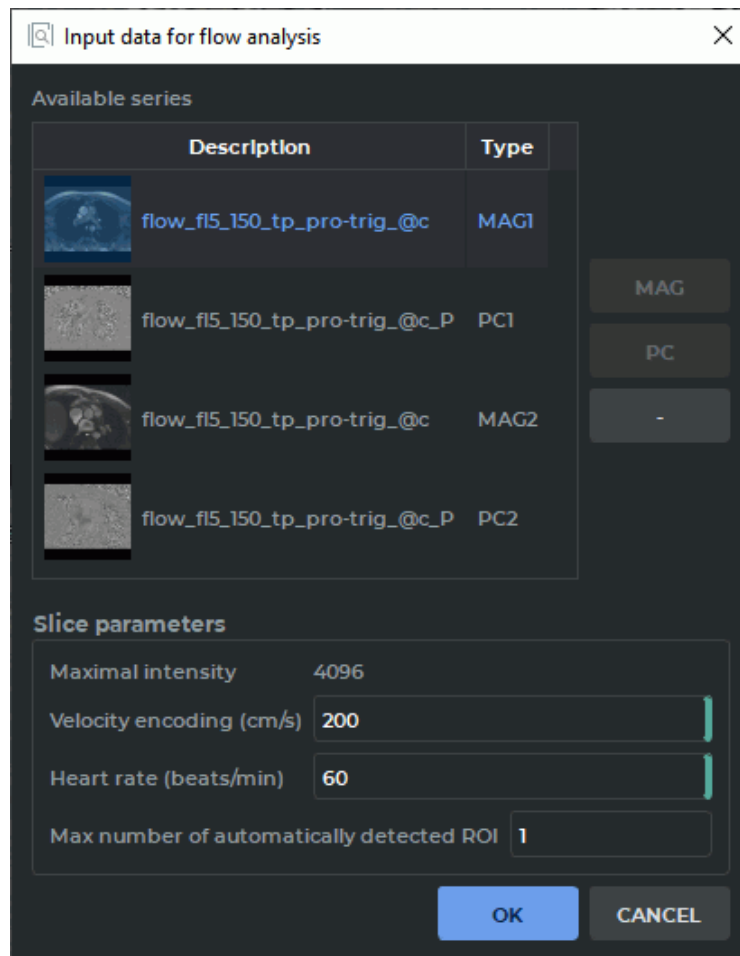

Figure 2.43: **Input data for flow analysis** dialog box
3. Provide the following parameters in the **Input data for flow analysis** dialog box (Fig. 2.43):
If you have not provided all the required parameters in the **Input data for flow analysis** dialog box (Fig. 2.43), the **OK** button will be inactive.
**Attention! The tool works only in the MAG MRI window selected in the “Input data for flow analysis” dialog box (Fig. 2.43). If you choose a window from a different series, you will be notified that the tool is not available for the window selected.**